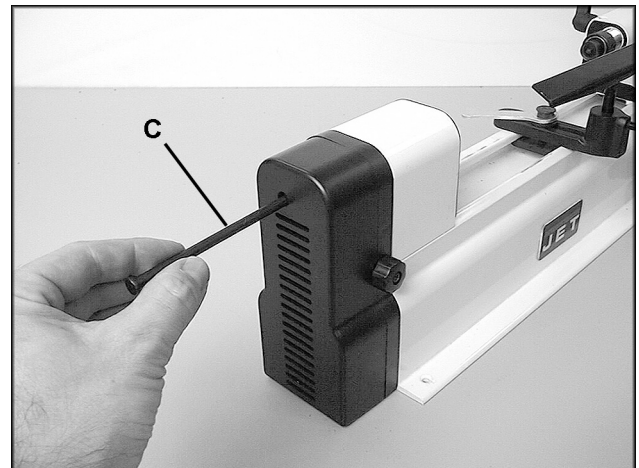

Fig. 9
3. To remove the spur center, insert the knockout rod (C, Fig. 9) through the hole as shown and push out the spindle. NOTE: Use your other hand to catch the spindle as it falls, to prevent damage to the tip.